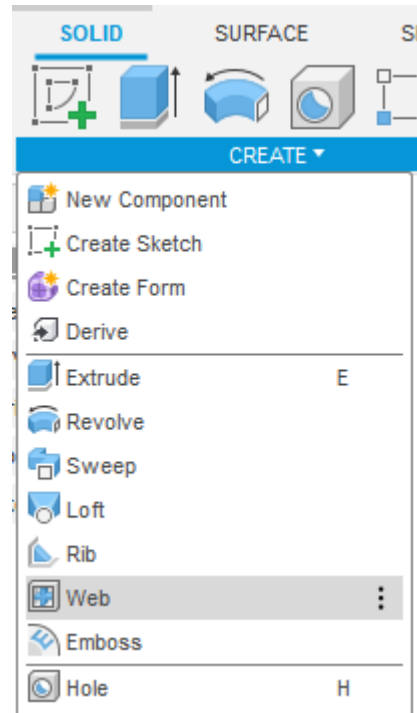

Figure 3.71
- The Web command allows for creating a grid of elements that enhance the construction of the object. We create the grid with the help of a sketch and we extrude it in a direction perpendicular to the sketch plane. The Web command is located in the Create panel in the toolbar (Figure 3.71).